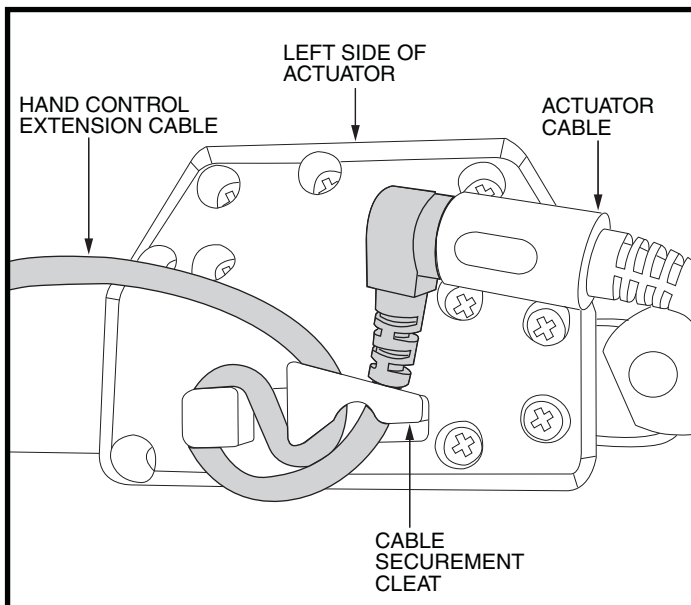

Figure 7. Routing and Connecting the Hand Control Cable
10. Connect the hand control extension cable to the actuator cable. **See figure 7.**
11. Route the hand control extension cable through the cable securement cleat located on the left side of the actuator. **See figure 7.**